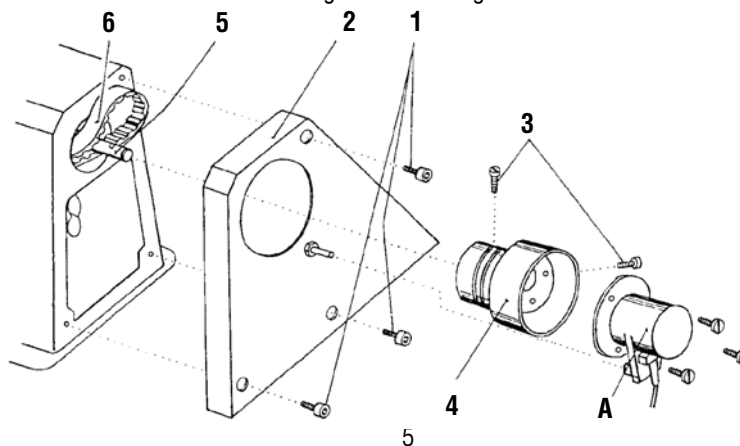

Fig. 14
14. Dismounting and mounting of the driving belt (Fig. 14)